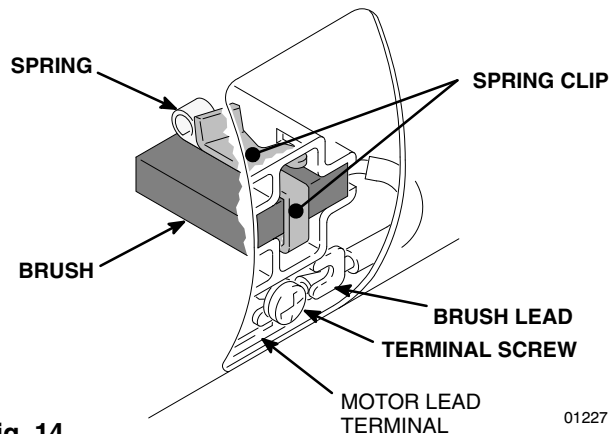

**Fig. 11**
2. Remove the motor shield (59). Remove the inspection covers (J) and gaskets (K) on each side of the motor. See Fig. 11.